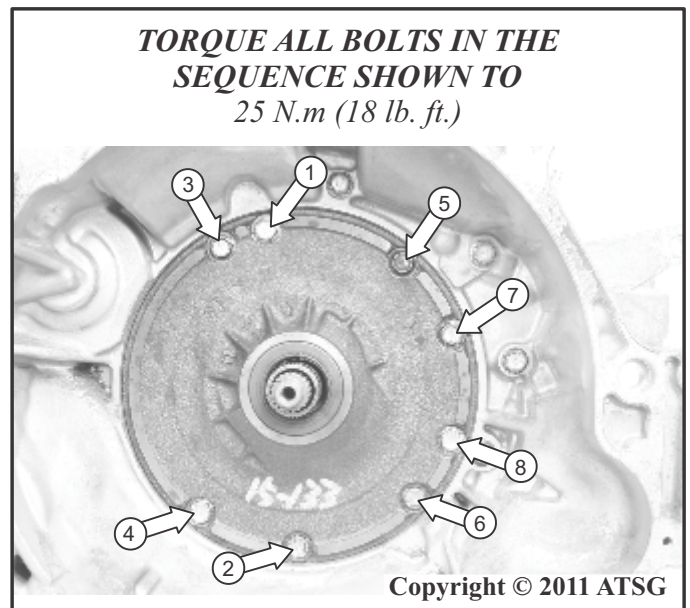

Figure 246
86. Install the eight  $M8 \times 1.25 \times 28\text{ mm}$  fluid pump to case assembly bolts and hand tighten as shown in Figure 246.
87. Torque the eight  $M8 \times 1.25 \times 28\text{ mm}$  fluid pump to case bolts to  $25\text{ N.m}$  ( $18\text{ lb. ft.}$ ) and in the sequence shown in Figure 246.